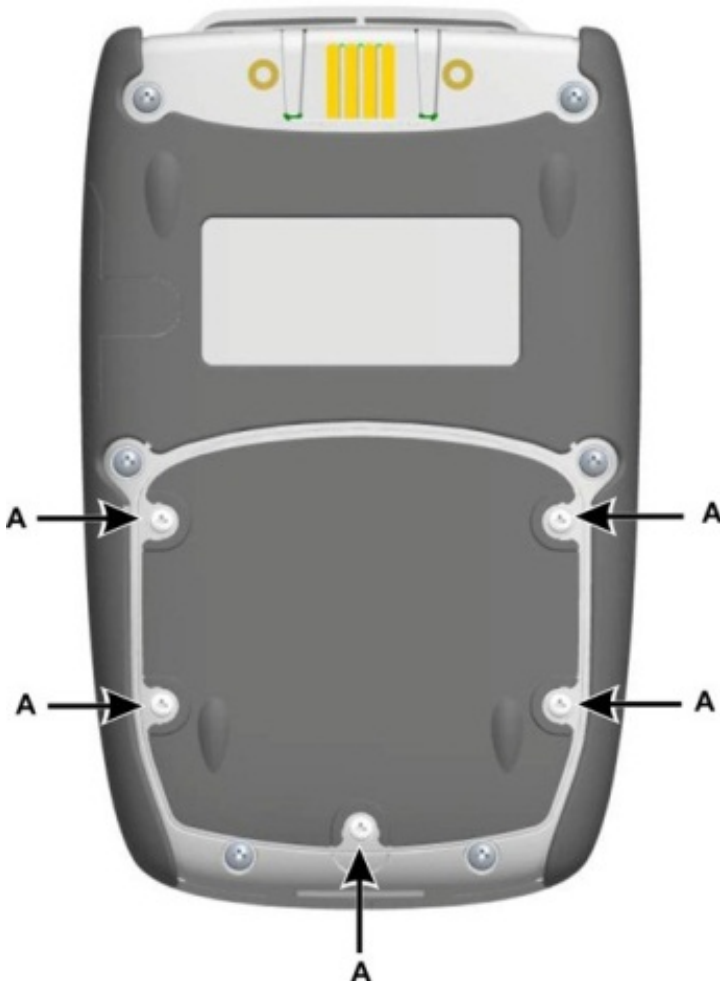

Figure 1-1
1. Remove the five Pozidriv screws **(A)** (Ref: Figure 1-1).